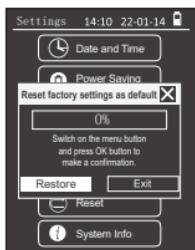

fig.24
f. Reset: Resets the product to its default values (fig.24).